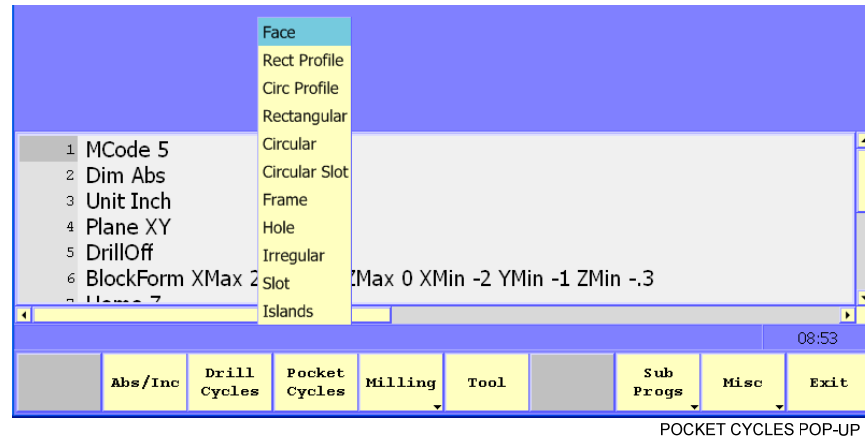

Figure 4-10, Pocket Cycles (F4) Pop-up Menu
Pocket canned cycles simplify the programming of repetitive moves required to mill out pockets. Select the pocket-canned cycles from the Program Editor **Pocket Cycles (F4)** pop-up menu. Refer to **Figure 4-10**.
1. In Edit Mode, press **Pocket Cycles (F4)** to display the pop-up menu. Refer to **Figure 4-10, Pocket Cycles (F4) Pop-up Menu**.
In Edit Mode, press **Pocket Cycles (F4)** to display the Pocket Cycles pop-up menu. Refer to **Figure 4-10, Pocket Cycles (F4) Pop-up Menu**.
1. In Edit Mode, press **Pocket Cycles (F4)** to display the Pocket Cycles pop-up menu. Refer to **Figure 4-10, Pocket Cycles (F4) Pop-up Menu**.